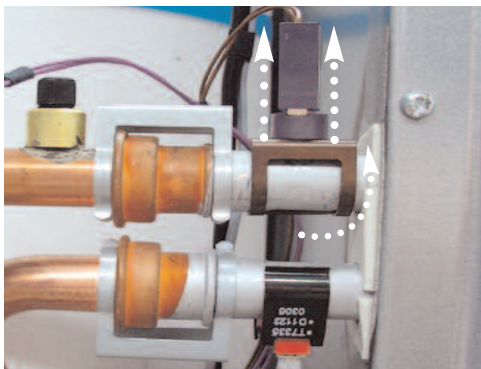

Fig. 18.73
2. Pull off the thermostat connections. Then remove the thermostat from the pipe by releasing it's securing clip (see Fig. 18.73).